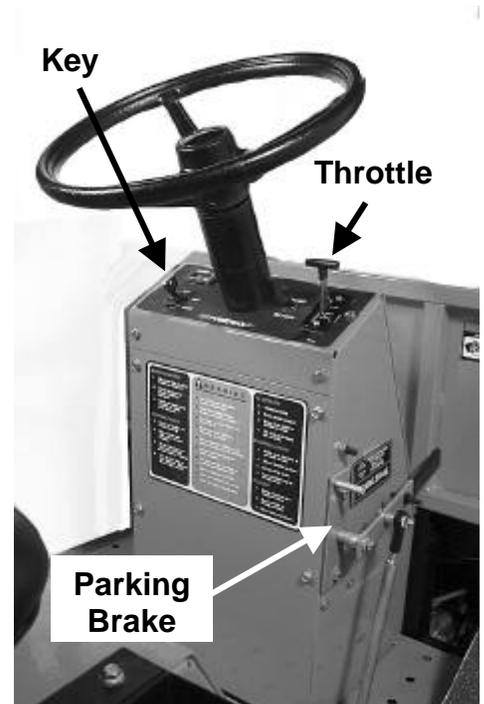

Figure 3: Operator Controls
5. Set the parking brake (*Figure 3*) on the right side of the console by pulling the bar toward you. To release the parking brake, push the bar forward.
2. Make sure that the parking brake lever (*Figure 3*) is engaged (vertical position).
3. Set the throttle (*Figure 3*) to the CHOKE position (to the RUN position if the engine is already warm).